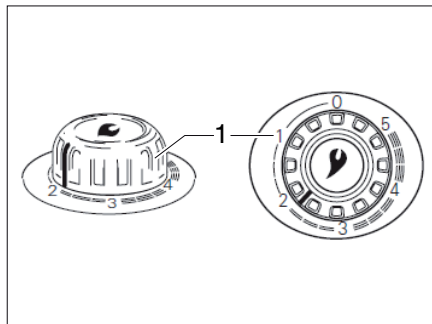

Fig. 104 Hot-air heater control knob
- Turn the control knob on the heater (Fig. 104,1) to the required position and press down to its stop limit.
- Turn the control knob at the heater (Fig. 104,1) to "0". The automatic ignition is switched off simultaneously.
- ▷ Further information can be obtained from the separate instruction manual "Truma S 3004 (P) / S 5004".